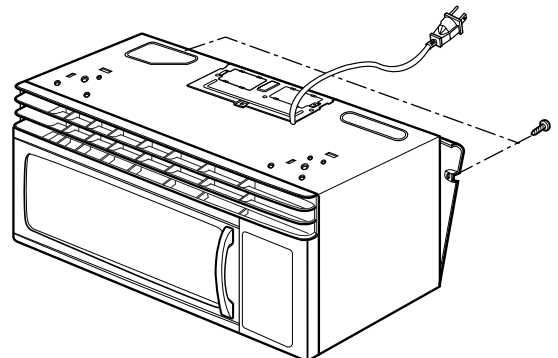

Figure 17
- (1) Remove the mounting plate by removing two screws securing it to the back plate. (See Figure 17)